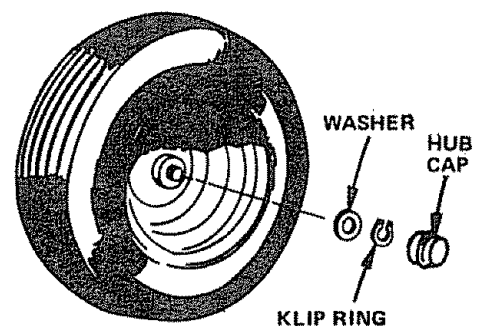

FIGURE 57
- d. Removing front wheel for tire repair (Fig. 57).
- Remove Hub Cap and (5) Hub Bolts to allow wheel removal.